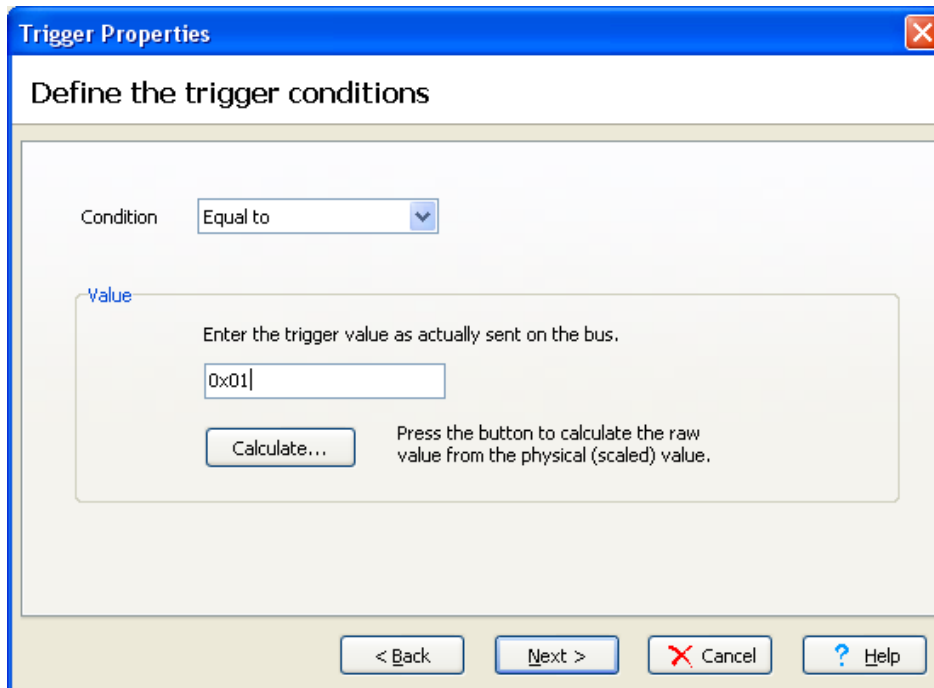

Figure 8. Define trigger conditions.
- Enter 1 as value. See Figure 8. Watch out for hexadecimal and decimal adjustment. You can change the default setting for this at **File | Preferences**. Check or uncheck the *Use hexadecimal numbers where applicable* box depending on desired format.